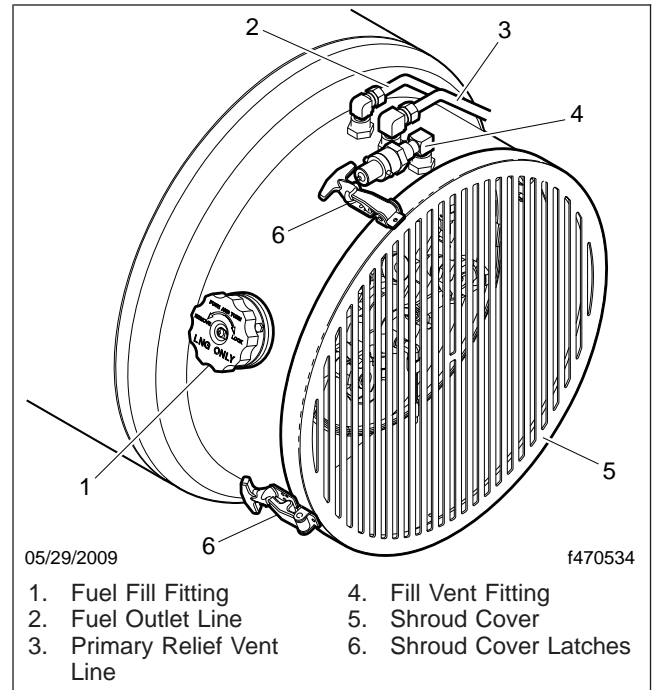

Fig. 19.2, LNG Fuel Tank
2. Remove the fuel fill fitting dust cap. See Fig. 19.2.